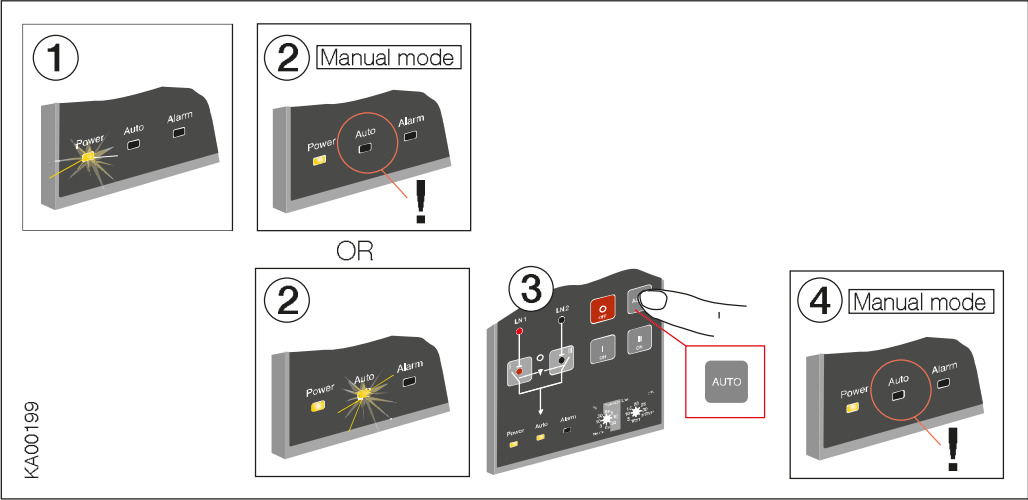

Figure 6.7      *Selecting the automatic control units OMD200 and OMD300 to Manual Mode*
1. Set device to MANUAL mode according the Figure 6.7.